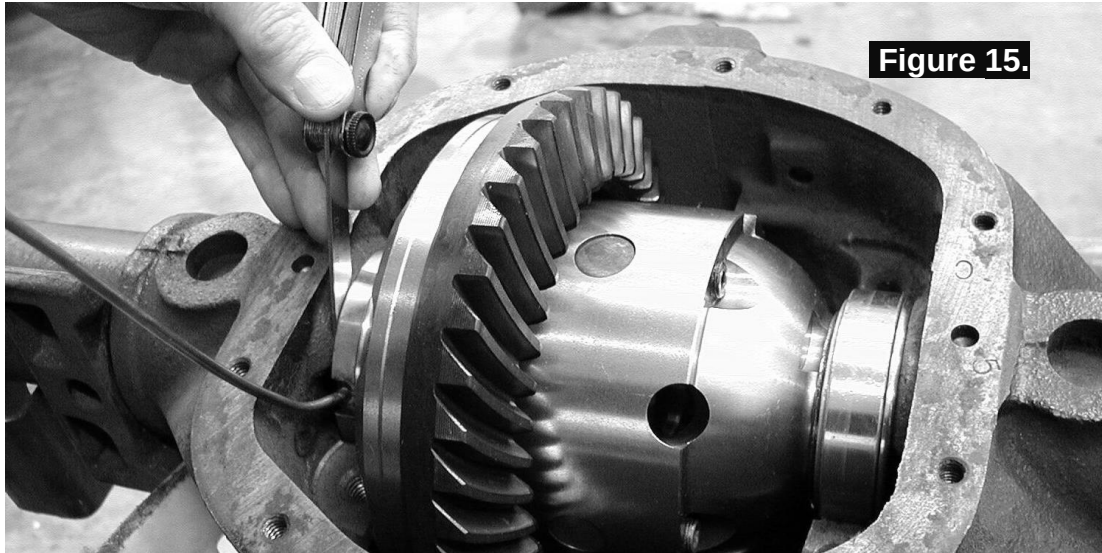

Figure 15.
- ☐ Push (or lightly pry) the *Air Locker* hard across to the right-hand side, and measure the maximum gap (also called the 'end float') between the outside of the seal housing and the inside face of the axle housing with an automotive feeler gauge. (Fig.15.)